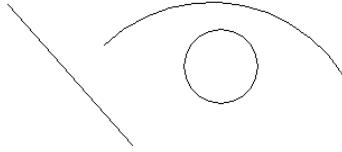

**Figure 3-7:** Your drawing should contain a line, an arc, and a circle.
7. Pick one point to be the center of the circle and another nearby point to specify the radius. Your drawing now contains a line, an arc, and a circle, and looks something like Figure 3-7. Of course, your objects will look different because you picked different points.